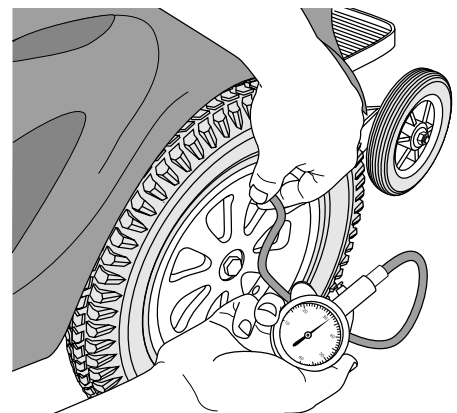

Figure 40. Check Tire Pressure
- Make sure the drive tires are inflated to **30 – 35 psi**. See figure 40.